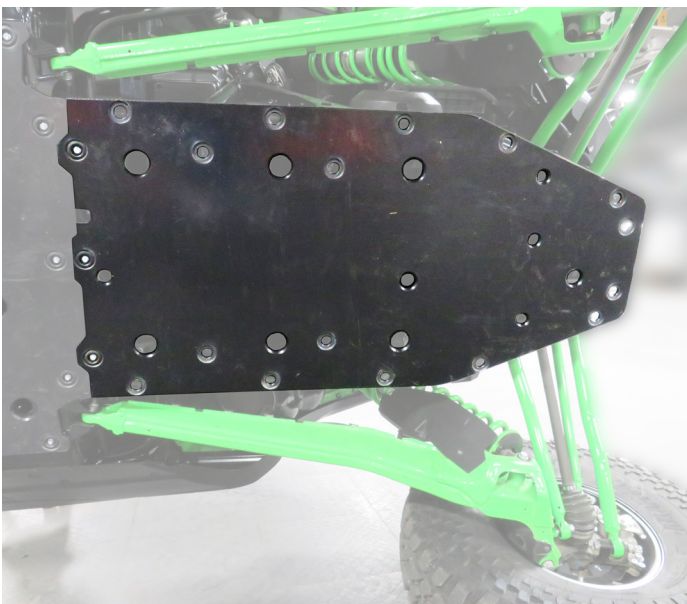

Fig.10a
10.And now **Install** the last **Plate #5**. You will install Three (3) **M6x30 Hex Bolts** and **Bowl Washers** on this plate at this time. Leave these a little loose also until all drilling and last screws and Bowl washers are installed. See **Fig.10a-b**.